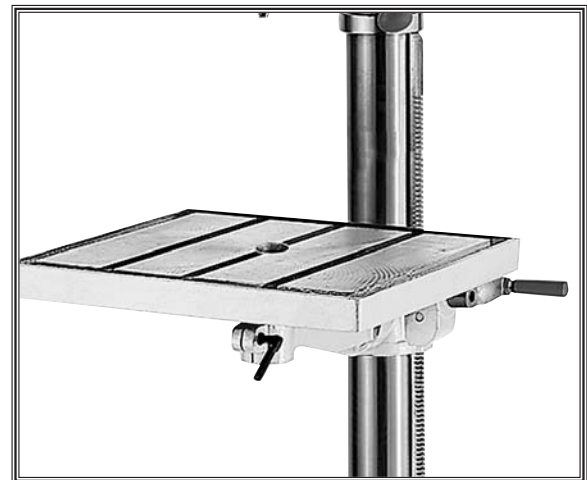

Figure 21. Table installed.
2. Tighten the small locking lever to secure the table in the table bracket. The table should now be installed as shown in **Figure 21**.